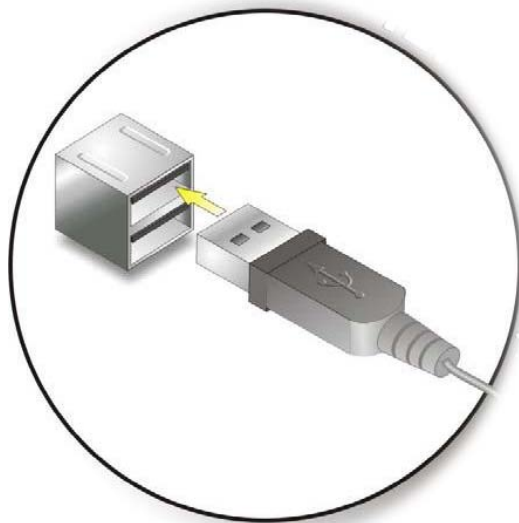

Figure 3-6: USB Connector
Step 1: Insert a USB Series "A" plug. Insert the USB Series "A" plug of a device into the USB Series "A" receptacle on the external peripheral interface. See **Figure 3-6**.